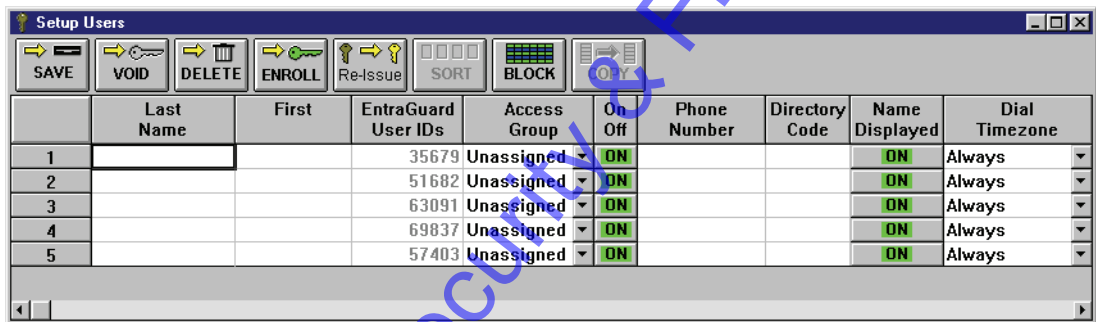

Figure 10-54: Setup Users Spreadsheet Window With New EntraGuard Columns
- To enter user data through the spreadsheet method, click on the Setup ⇒ Users pull-down menu or click on the  tool bar button. These two icons   are added to the tool bar and the Setup Users spreadsheet window appears. If the spreadsheet is not visible, click on the  tool bar button to ensure the Setup Users spreadsheet window is active (see Figure 10-54).